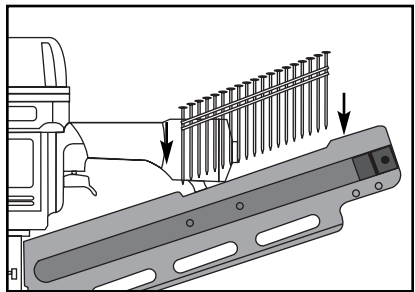

Figure 2. Loading the nailer.
3. Place a stick of nails into the magazine as shown in **Figure 2**. Make sure the pointed ends of the nails are facing down.